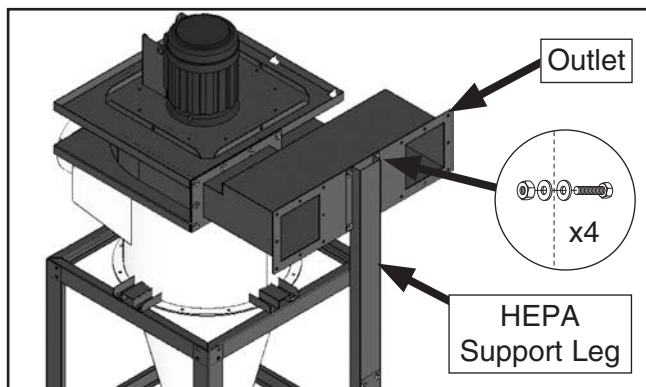

Figure 7. HEPA support leg attached to outlet.
5. Attach HEPA support leg assembly to outlet (see **Figure 7**) using (4) $\frac{3}{8}$ " x 1" hex bolts, (8) $\frac{3}{8}$ " flat washers, and (4) $\frac{3}{8}$ " nuts.